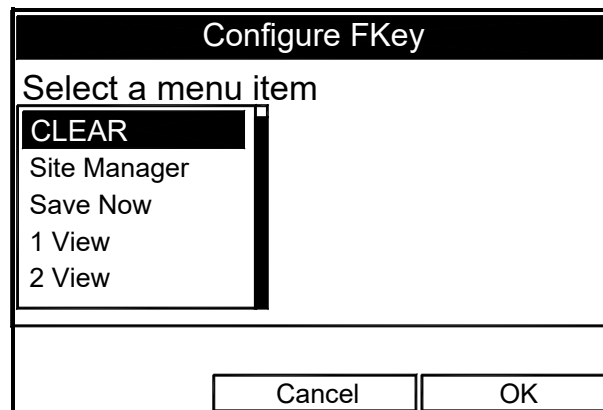

Figure 45: Configure FKey Window
- Use the [▼] or [▲] arrow keys to move to the desired FKey (1, 2 or 3) entry on the menu. Press [ENTER]. The Configure FKey window opens, as shown in Figure 45 below.